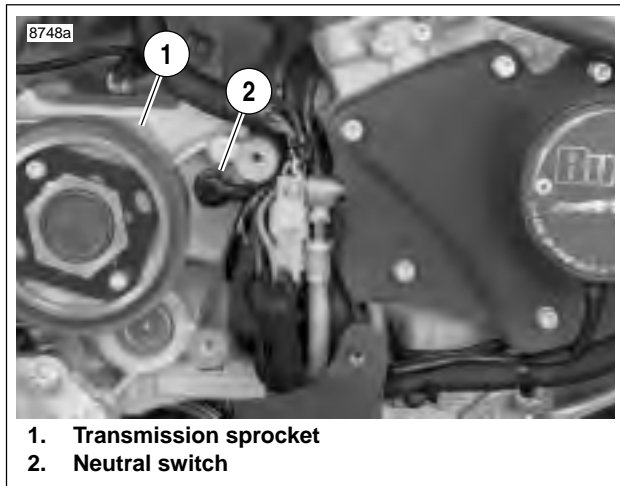

Figure 4-133. Neutral Switch
- By placing the motorcycle in neutral and grounding the relay through the neutral switch. See Figure 4-133.